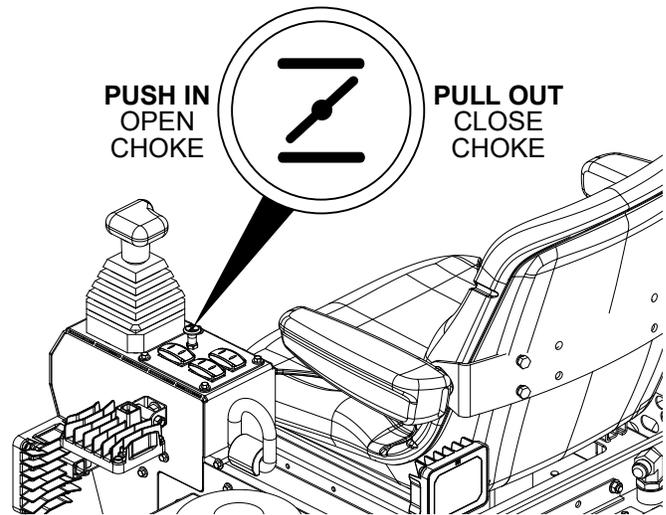

Figure 20. Choke Knob
2. If starting a cold engine, or starting the engine in cold weather, pull the **choke knob** (Figure 20) **outward** to the **CLOSED** position.
- Let the engine idle for 2–3 minutes. Once the engine has warmed, push the **choke knob** (Figure 20) **inward** to the **OPEN** position.